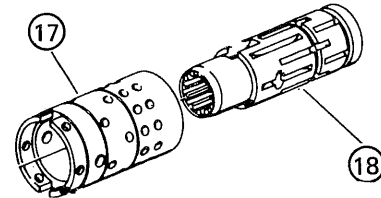

Fig. 138
- (5) Apply Locktight No. 242 on set screw (9) and tighten to 1.2 kg-m. Make certain that set screw (9) is slightly below housing surface.
- (6) Slide control spool (18) into control sleeve (17) by turning spool and making certain that spring notches align. For assembling control spool (18) and sleeve (17) that have positioning marks, utilize these marks for positioning (Fig. 138).